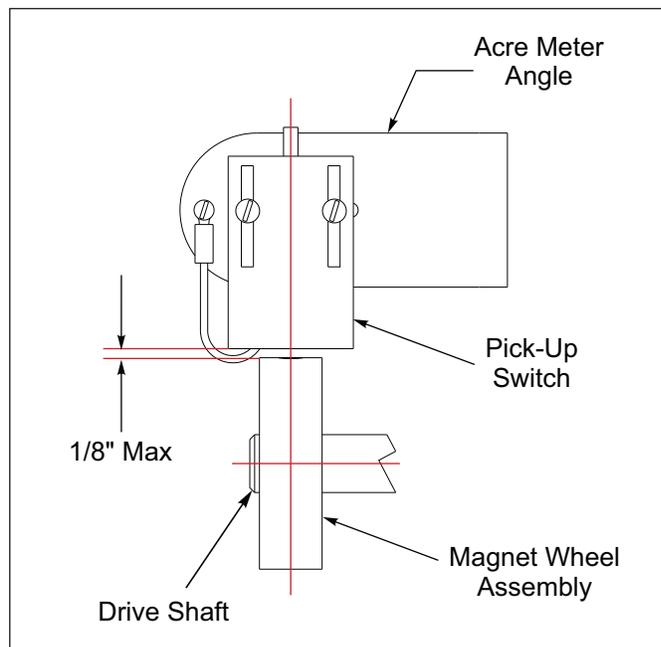

Figure 2-3: Pick-Up Switch Adjustment
6. Adjust the Pick-Up Switch on the Acre Meter Angle so the centerline of Magnet Wheel Assembly and Pick-Up Switch are horizontally and vertically aligned with a maximum 1/8" between the Magnet Wheel Assembly and the Pick-Up Switch. Tighten #8-32 Screws. **See Figure 2-3.**